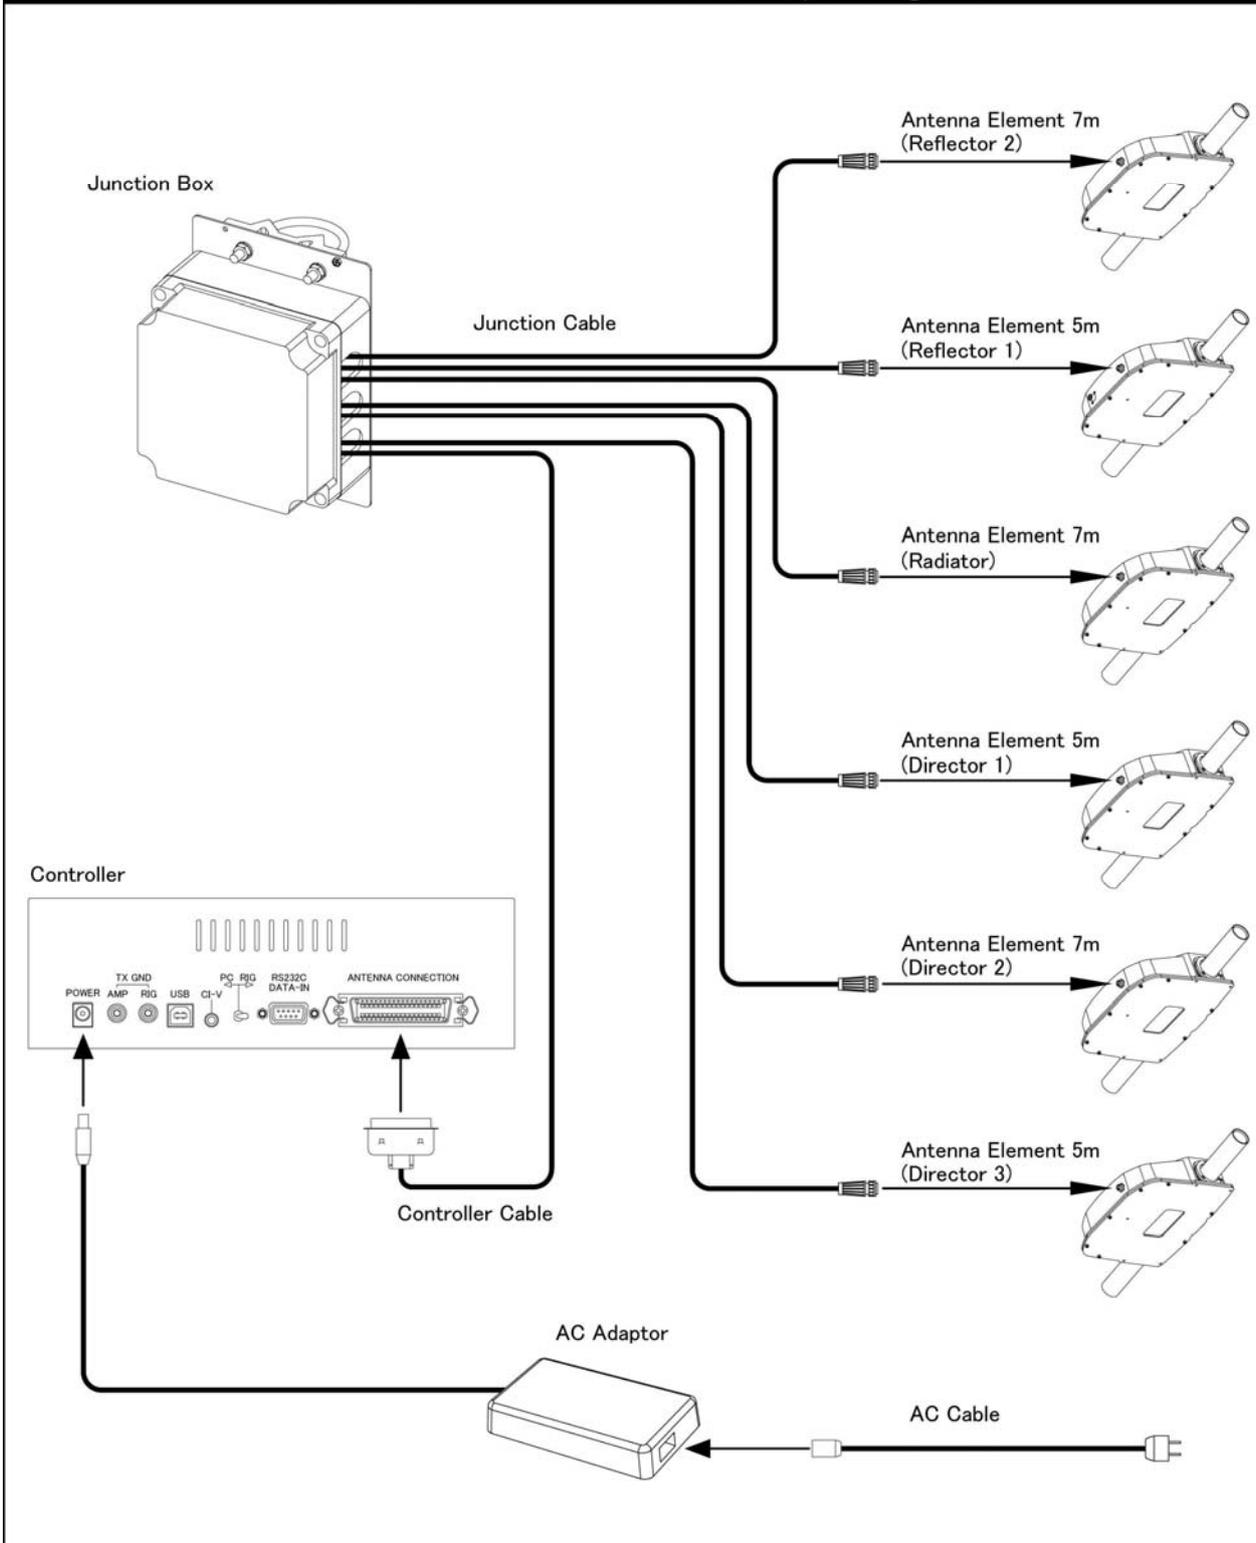

Figure 6
*See 「Figure6」 Figure6 doesn't show detail.
- *See Figure6 showing how to connect AEU • Junction Box • Junction Cable • Controller Cable • Controller.
See [Figure6]